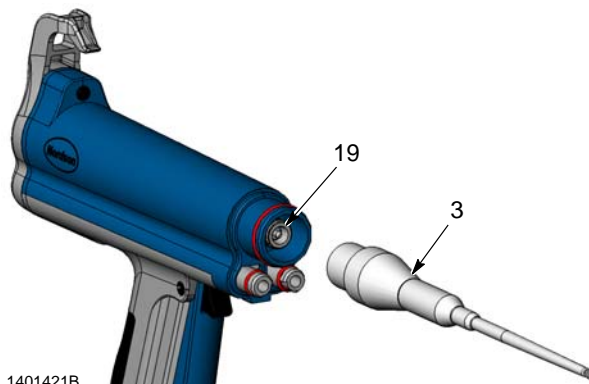

Figure 4 Removing the Resistor Holder
4. See Figure 4. Unscrew the resistor holder (3) from the multiplier (19).
4. See Figure 4. Screw the resistor holder onto the multiplier.